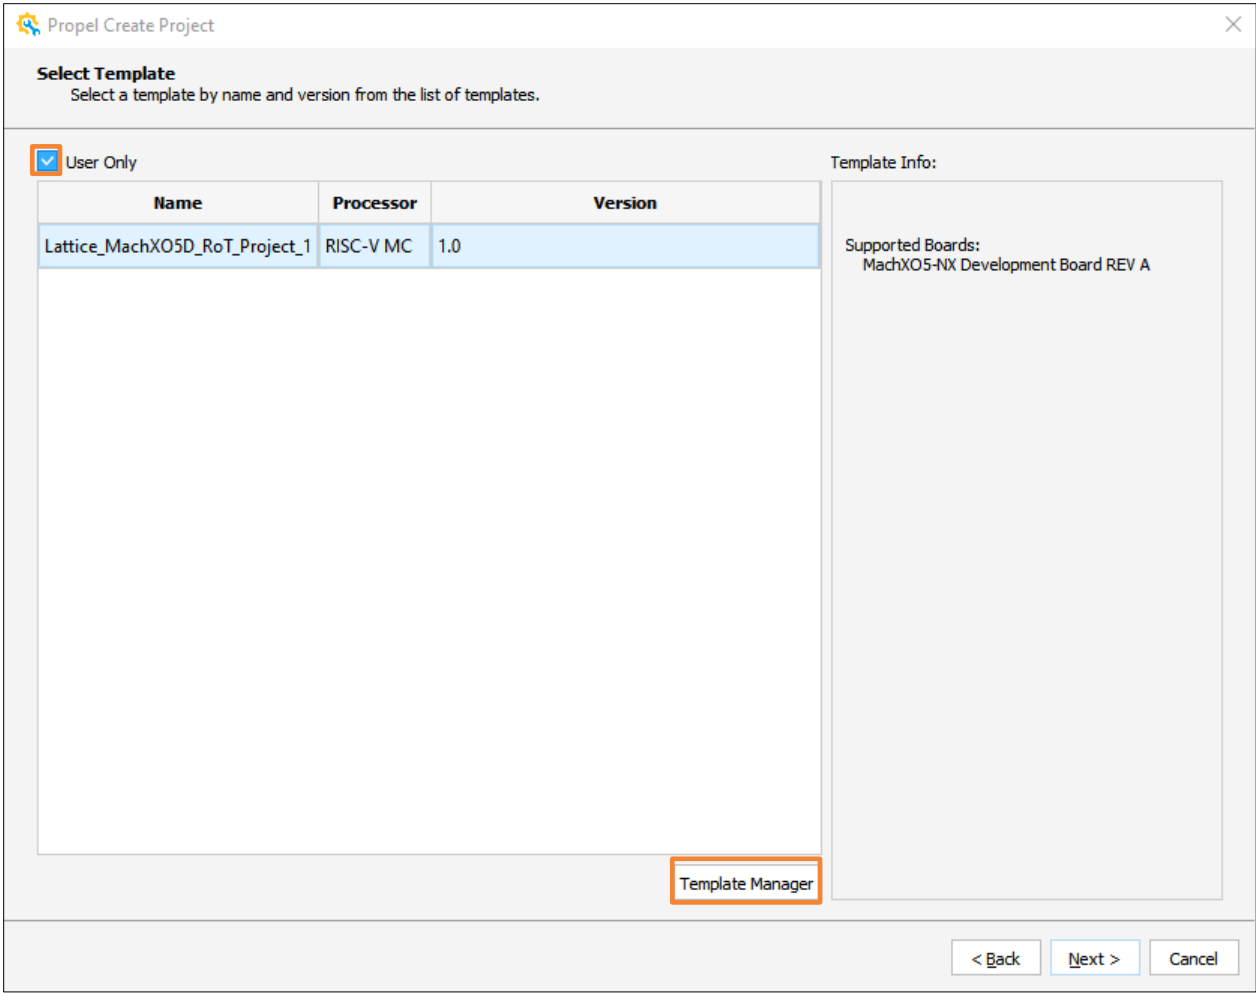

Figure 2.8. New SoC Project – Select Custom Template
- (Optional) Click **User Only** to see user custom template (Figure 2.8). Refer to the Define Custom Template section for how to use **Template Manager**.